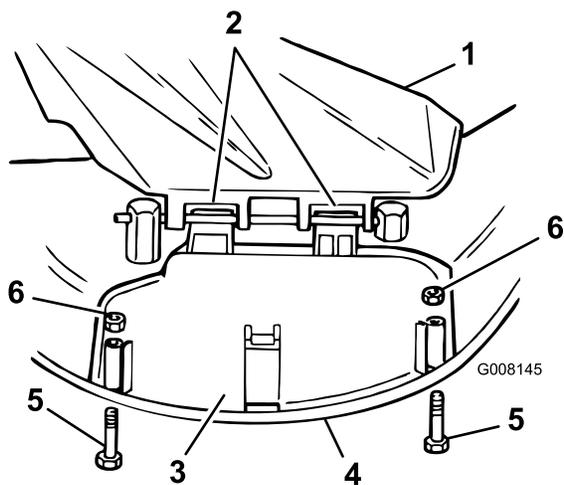

Figure 24
3. Rotate the discharge cover down over the opening, and onto the lower lip of the cutter deck (Figure 24).
4. Secure the discharge cover to the lower lip of the cutter deck with bolts and nuts (Figure 24).